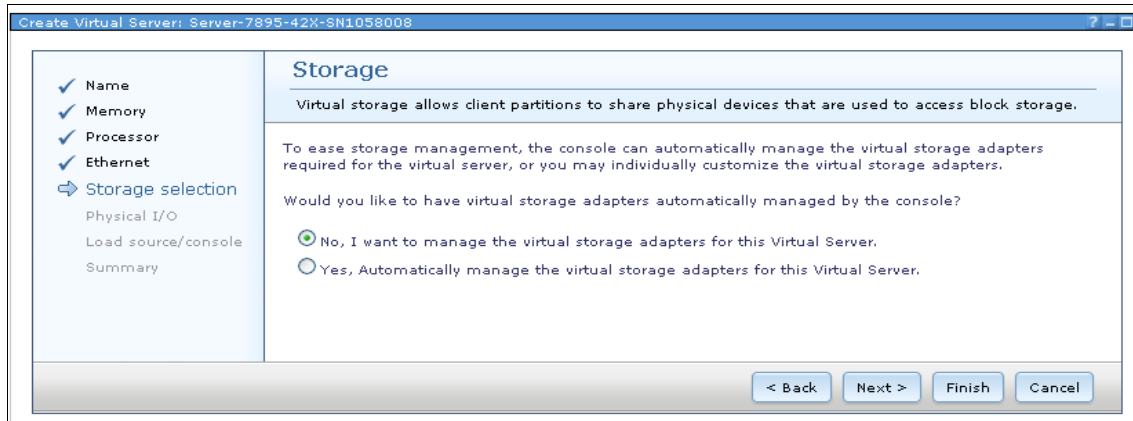

Figure 8-78 IBM i virtual server manual virtual storage definition
5. In the Virtual Storage definitions window, Indicate that you do not want automatic virtual storage definition (configure the adapters manually), as shown in Figure 8-78. Click **Next**.